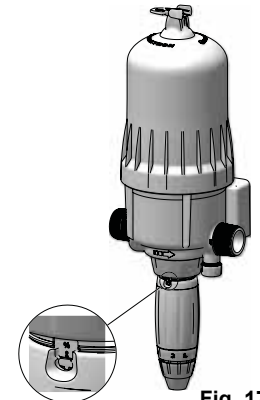

Fig. 17
- Retighten the dosing locking nut (Fig. 17)